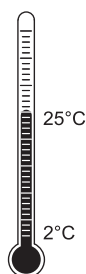

*Figure 1. Arranging Tubes or Bottles in the Rotor.
2. Load the filled containers symmetrically into the rotor. (Refer to TUBES AND BOTTLES on page 7 for information about containers.) If fewer than six tubes are being run, they must be arranged symmetrically in the rotor (see Figure 1). Opposing tubes must be filled to the same level with liquid of the same density (within 10 grams).